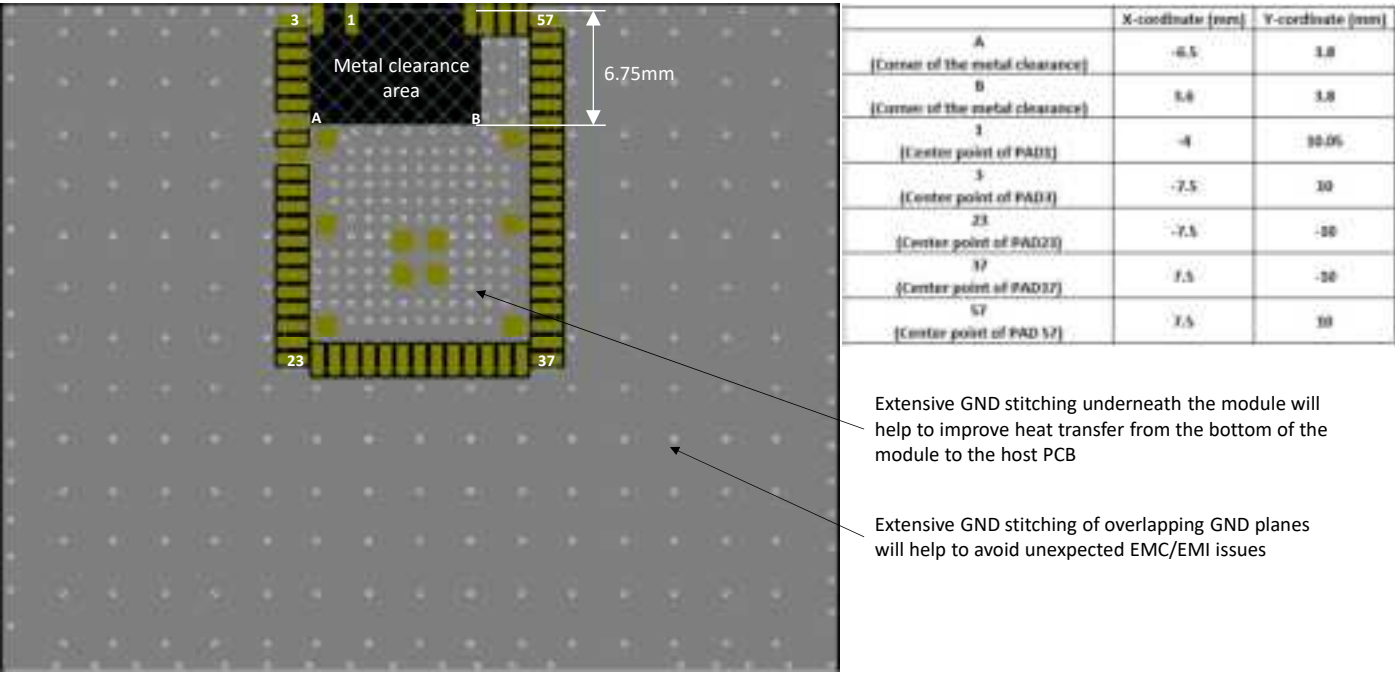

Figure 8.6. Application Layout of SiW917Y1GA
- Place the module aligned to the edge of the application PCB, as illustrated in Figure 8.6 on page 138.